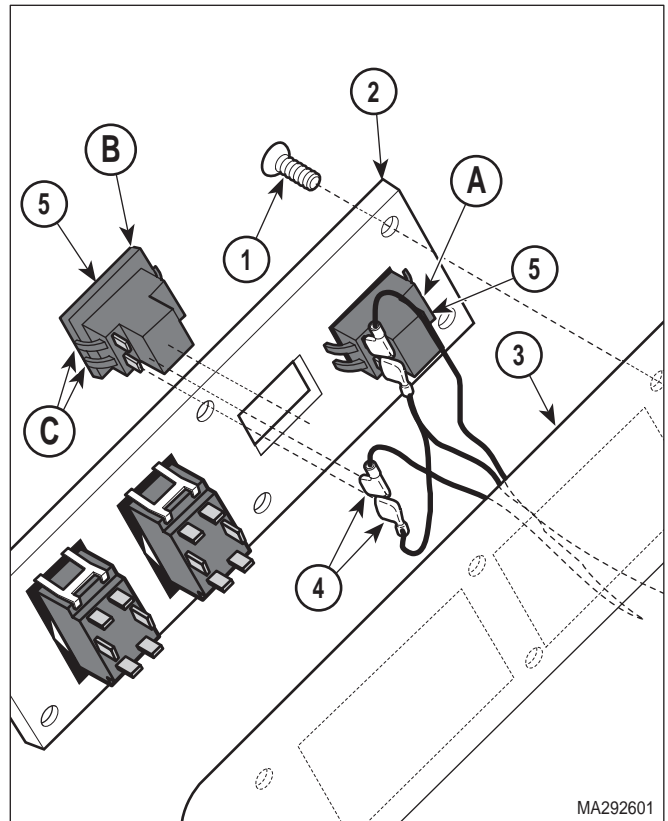

Figure 4-20. AUTO RETURN "RETURN" or "STOP" Switch Removal / Installation
- (1) Unplug power cord from wall outlet.
- (2) Remove six screws (1, Figure 4-20) and separate switch plate (2) from seat weldment (3).
- (3) Disconnect two wires (4) from "RETURN" (A) or "STOP" (B) switch (5).
- (4) Depress four tabs (C) of "RETURN" or "STOP" switch (5), while simultaneously pulling the switch out of switch plate (2).